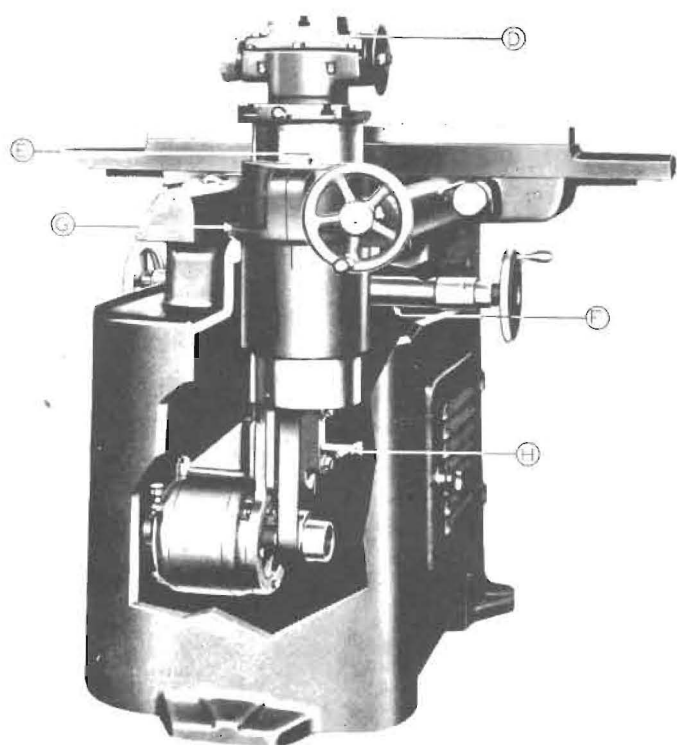

FIG 6 REAR VIEW
4. Use pinion "H" (Fig. 6) to adjust the belt tension.
The wheel head is fastened to the column and extends through sleeve on the column. (See Fig. 6.)
1. Remove dust guard "E" on top of housing. (See Fig. 6.)
1. Remove cover over opening in top of base and remove the set screw in the housing which holds sleeve "F". Sleeve "F" can then be drawn out of the machine. (See Fig. 6.)
2. Loosen the two hex head screws, one above and one below pinion "H" shown in Fig. 6. Remove the belt by raising motor.